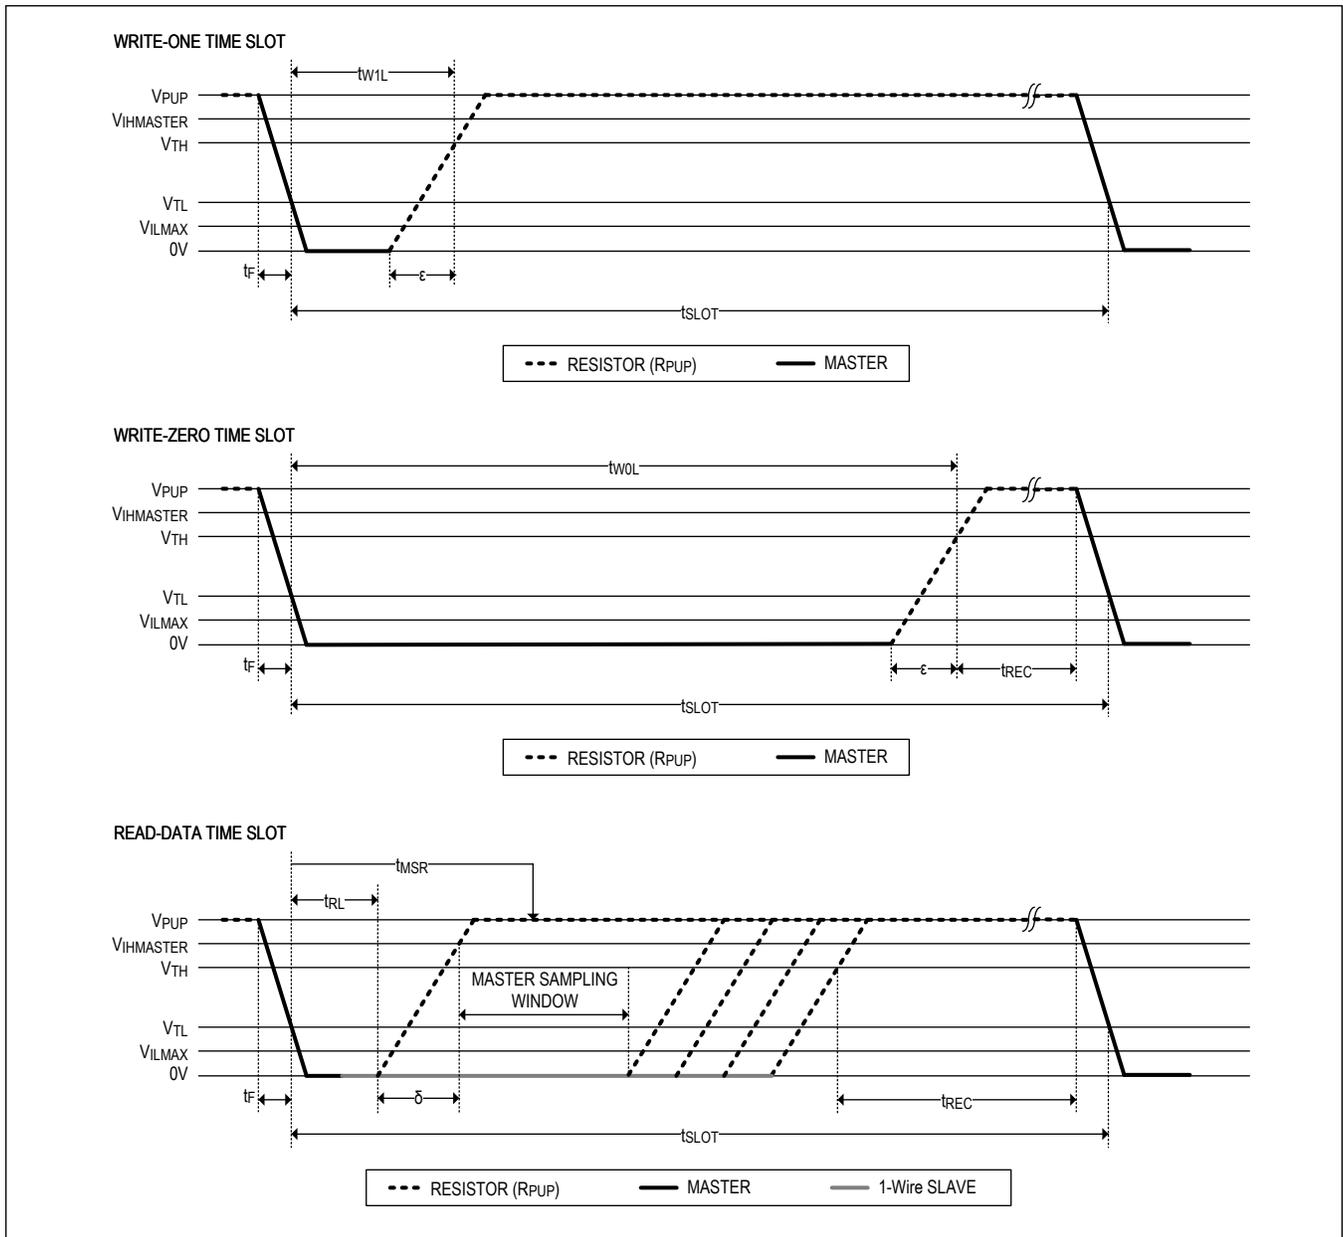

Figure 3. Read/Write Timing Diagrams
- Note 13:** System requirement. ϵ in Figure 3 represents the time required for the pullup circuitry to pull the voltage on IO up from V_{IL} to V_{TH} . The actual maximum duration for the master to pull the line low is $t_{W1LMAX} + t_F - \epsilon$ and $t_{W0LMAX} + t_F - \epsilon$, respectively.
- Note 14:** System requirement. δ in Figure 3 represents the time required for the pullup circuitry to pull the voltage on IO up from V_{IL} to the input-high threshold of the bus master. The actual maximum duration for the master to pull the line low is $t_{RLMAX} + t_F$.